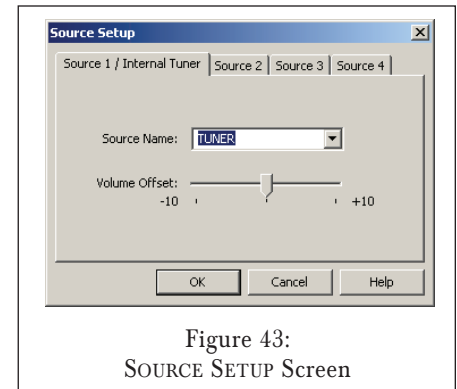

Figure 43:
1. Open the DEVICE menu and select SOURCE SETUP. The SOURCE SETUP screen (Figure 43) will appear.
- The Zone 1 programming screen will include one set of VOLUME UP/DOWN, MUTE and ZONE OFF buttons and four sets of ZONE SOURCE CONTROL and numeric buttons (one for each source). The source names you selected on the SOURCE SETUP screen (see *Figure 43*, on page 33) will appear on the four SOURCE buttons.